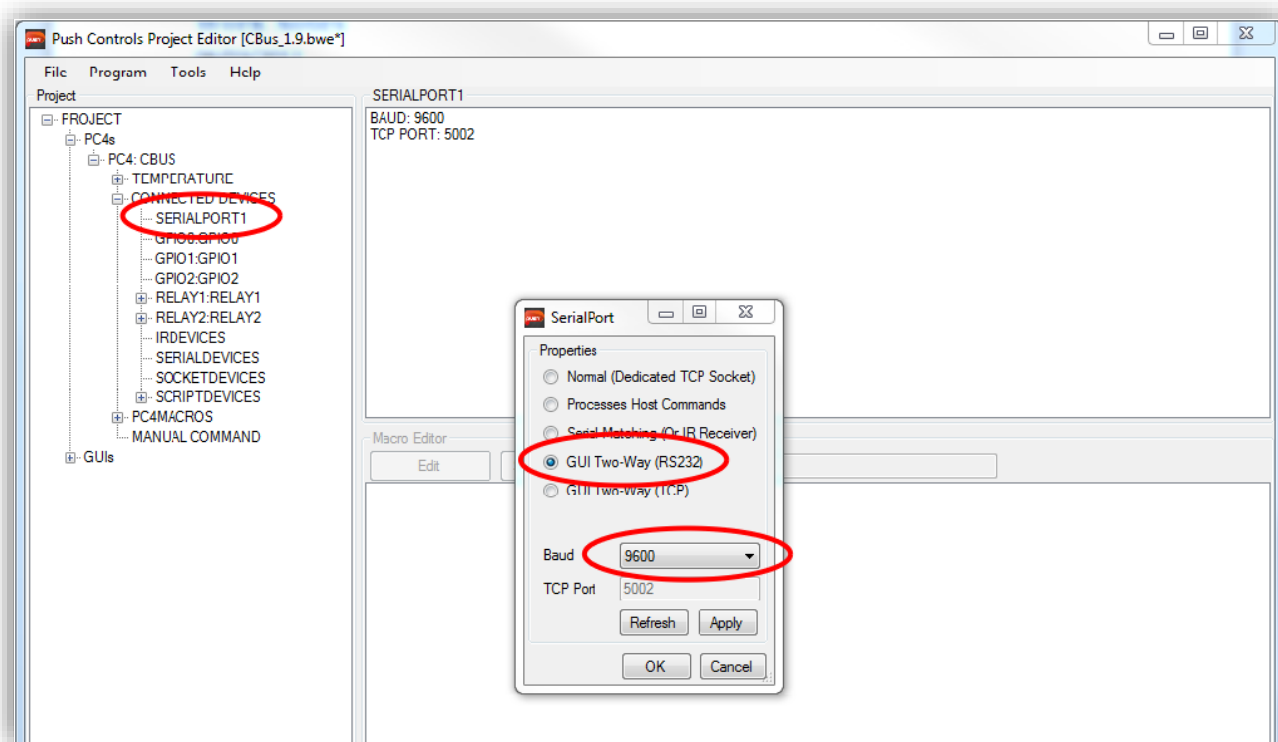

Figure 5 – Highlighting the location of the Serial Port in the project tree, along with the dialog box properties to set.
- Open the controller tree. *Refer to Figure 5*